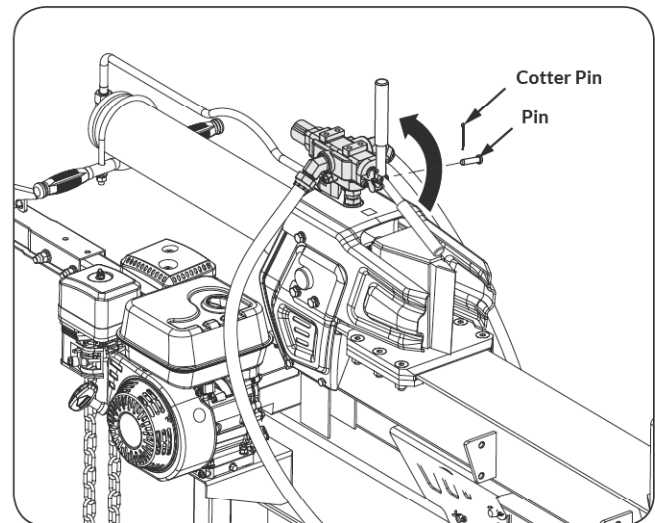

Figure 13
1. The control handle is shipped hanging from the valve on the handle link. Remove the pin and cotter pin from the control handle. Move the control lever to the vertical Neutral position (shown in circle on illustration **Figure 13**.)